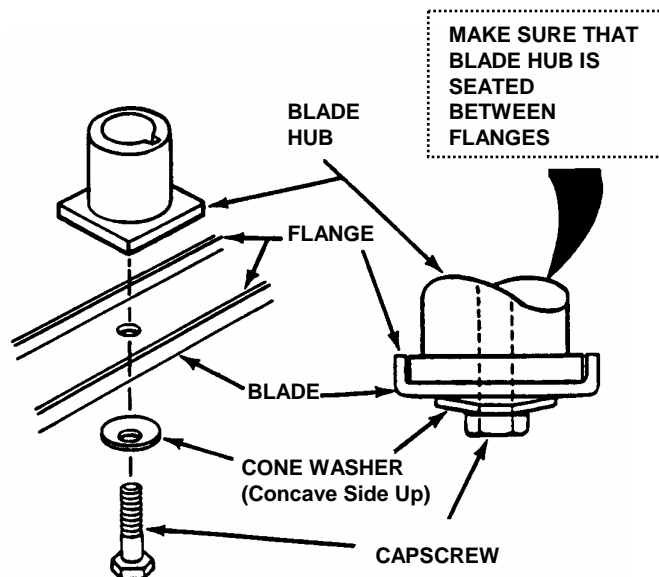

FIGURE 4.3
3. Remove blade. See Figure 4.3.
4. Sharpen blade on a grinding wheel at an angle of 22 to 28 degrees. DO NOT sharpen blade beyond original cutting edge. See Figure 4.3.